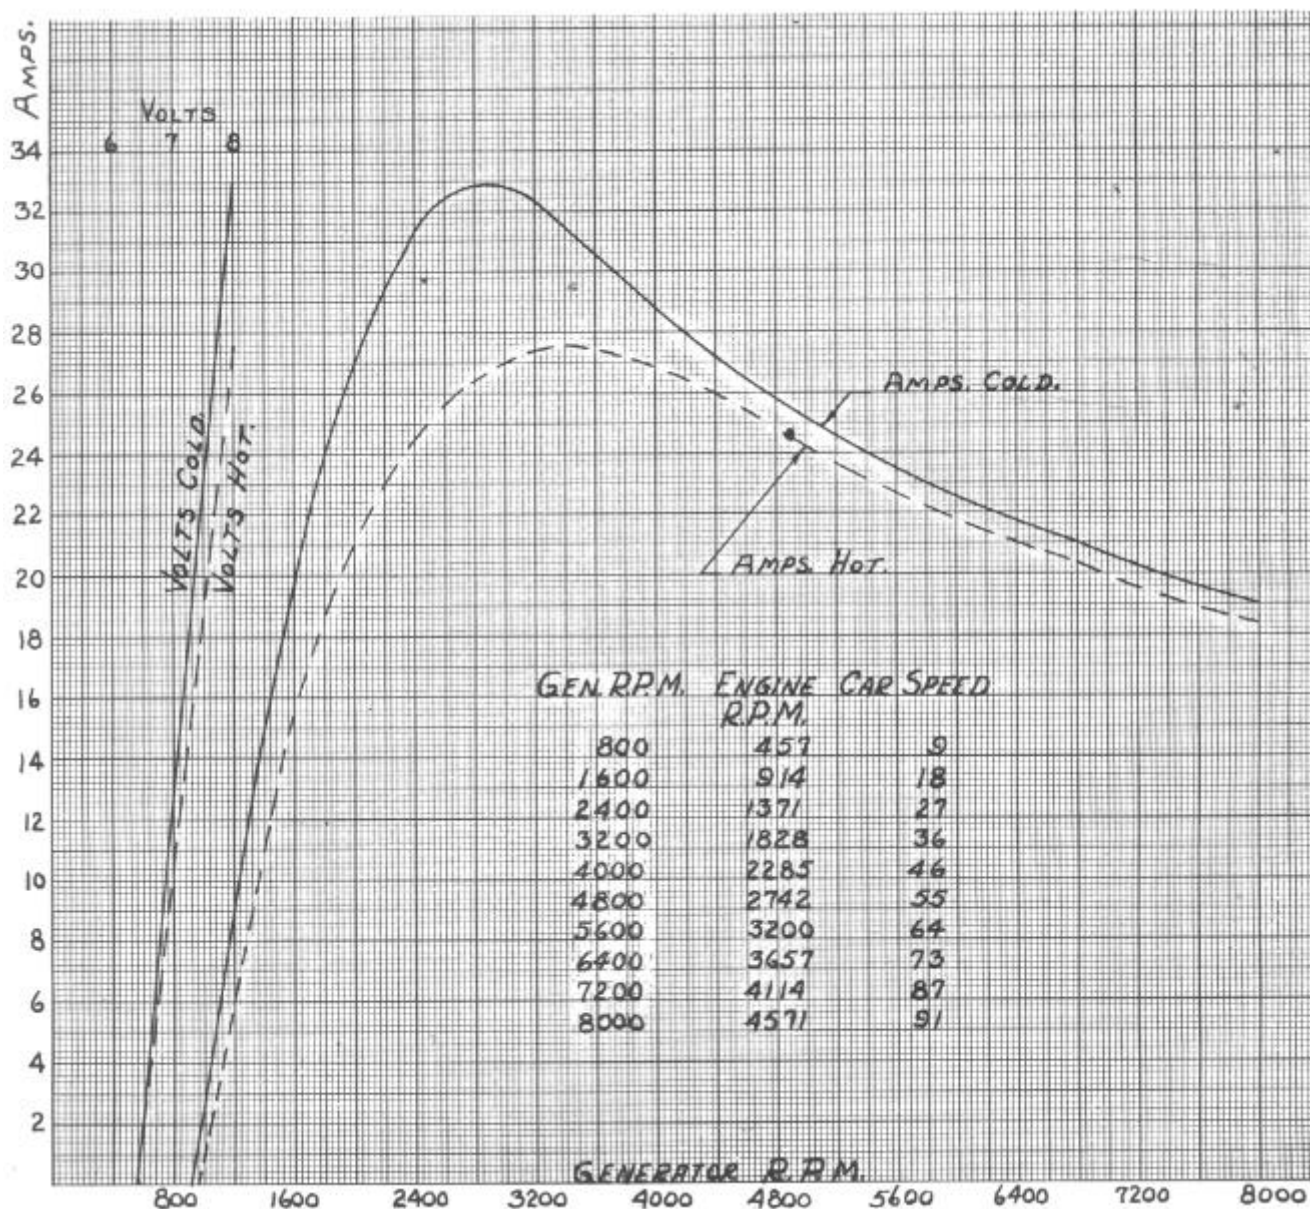
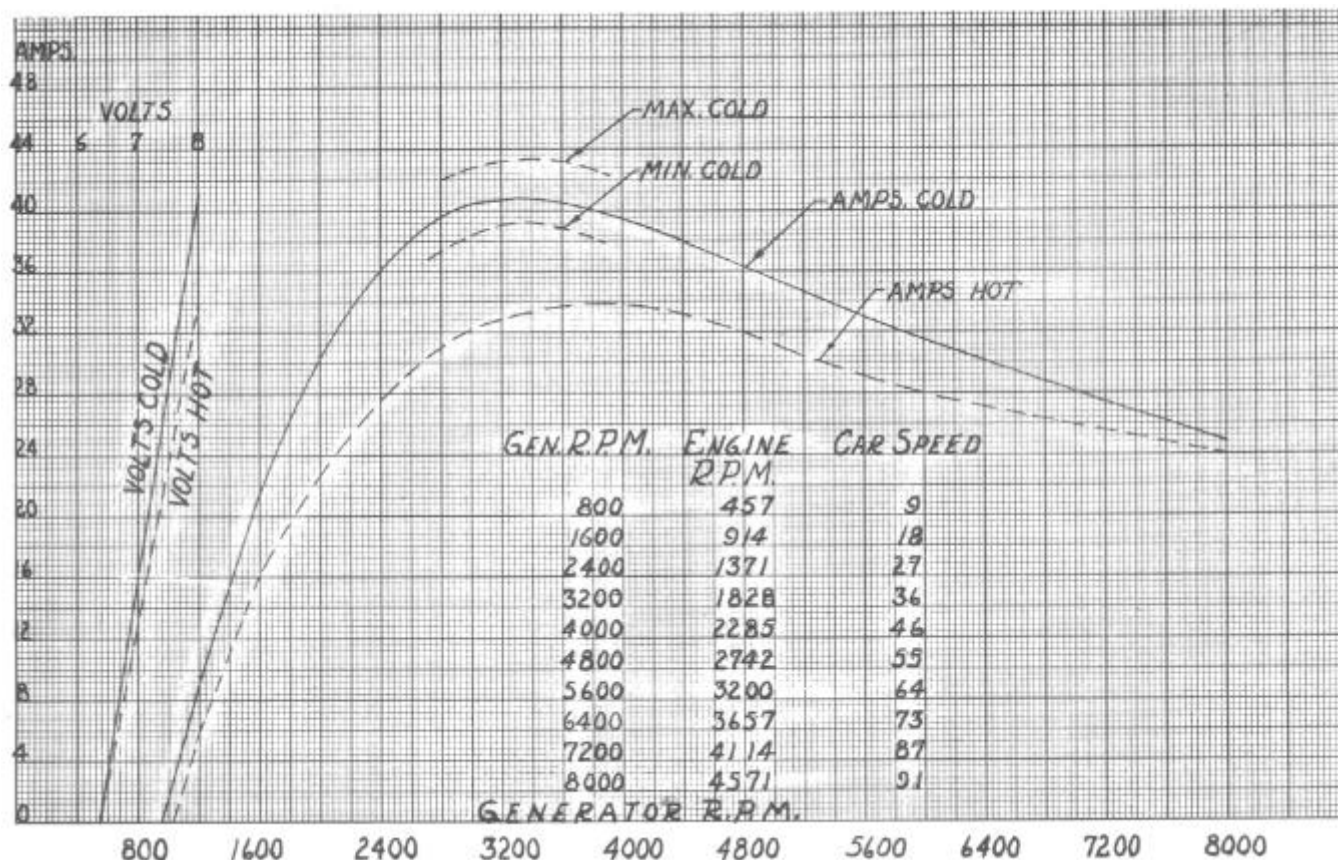

Figure 5--Generator Charging Curve - Models 40, 43
Figure 6--Generator Charging Curve
6. With resistance turned "out" and engine running at speed corresponding to 35 m.p.h., at 8 volts, generator charging rate should be not less than 27 amperes on Models 40 and 48, see Figure 5. On all other models charging rate should be not less than 34 amperes, see Figure 6. Adjust third brush in a counter-clockwise rotation to increase output.